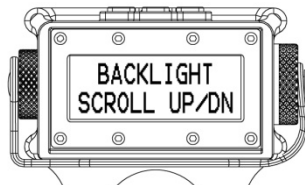

Figure 4-5
4. The screen displays “BACKLIGHT SCROLL UP/DN”. See Figure 4-5.